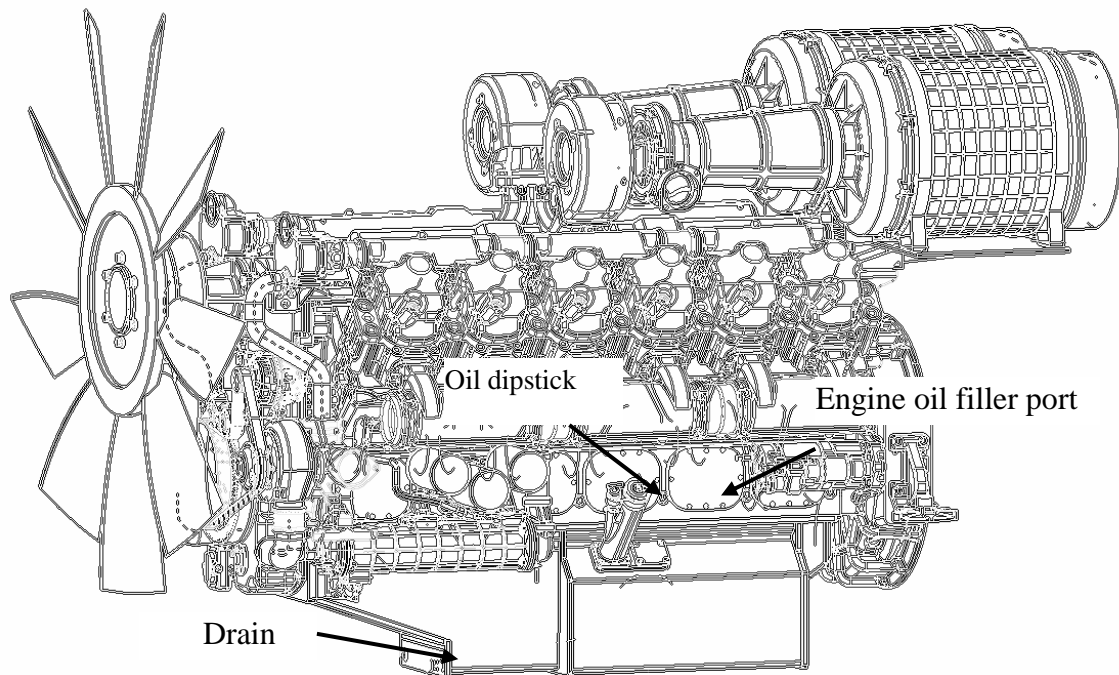

Figure 2-4 Filler Port, Drain Plug and Filter of Engine Oil
- Replace diesel engine oil. As shown in Figure 2-4.